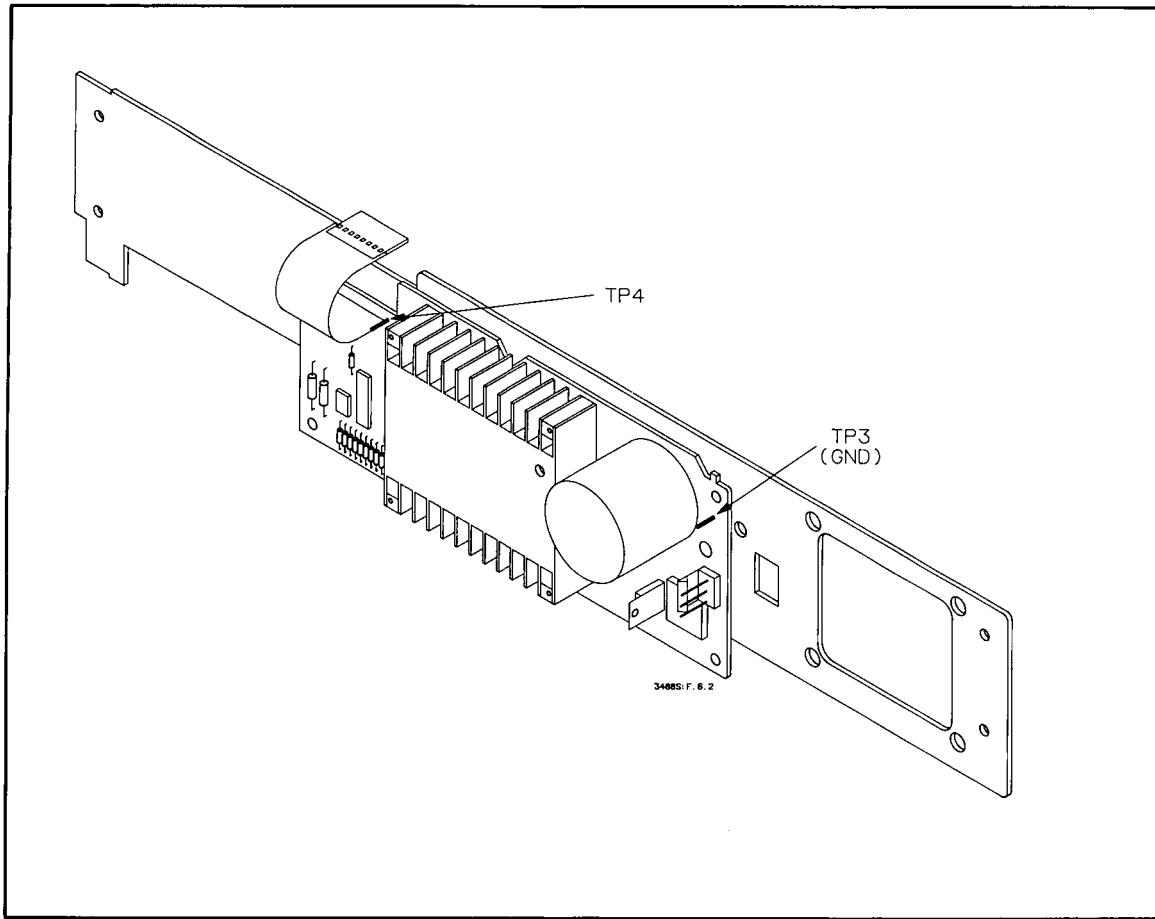

Figure 6-2 TP3 (GND) and TP4 Test Points
The power supply printed circuit board is located behind the keyboard. Connect the voltmeter common lead to TP3 (GND) on the power supply board (shown in Figure 6-2). Connect the voltmeter positive test lead to TP4 on the power supply board (shown in Figure 6-2).
2. Check the + 5 Vdc output of the power supply. It will be necessary to remove the 3488A top cover to check the power supply. A cover removal procedure is given in Chapter 5. Figure 6-2 shows the ground and TP4 test points. Connect the positive lead of the voltmeter to TP4 and the negative lead to ground (TP3). The voltmeter should indicate + 5.1 Vdc, ± 0.10 Vdc. If the voltage indicated is within the specification, check the + 5 Vdc output (at TP4) with an oscilloscope for noise on the supply. Noise should be less than 65 mV peak-to-peak.